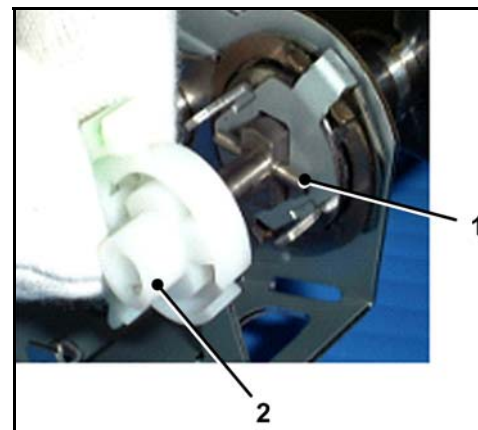

Figure 16
19. Pull Gear E (2) off of its spindle. Do not move or lose the drive pin (1) (see Figure 16). Discard Gear E.